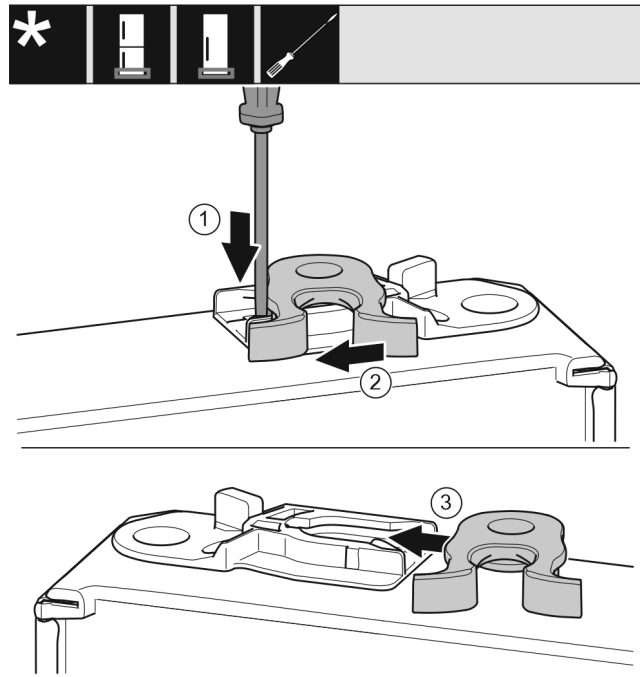

Fig. 21
- Use a slotted screwdriver to push the tab Fig. 21 (1) downward.
- Pull the closing hook Fig. 21 (2) out of the guide on the other side.
- Push the closing hook Fig. 21 (3) to the other side in the guide.